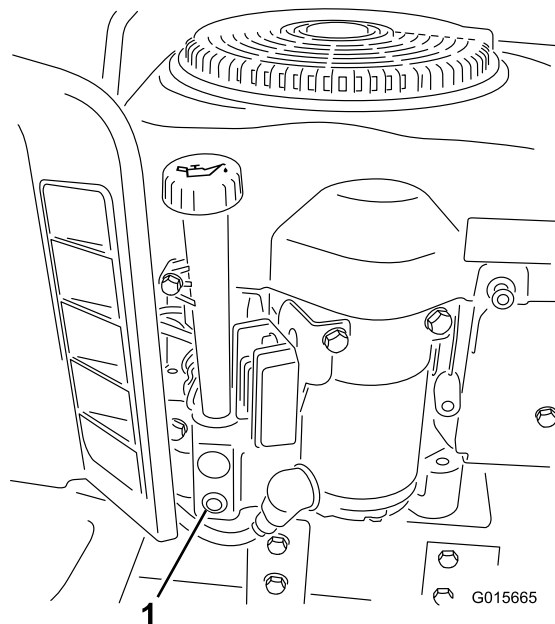

Figure 18
6. Place a drain pan below the oil drain plug and open the drain plug by turning the end nut counterclockwise (Figure 18).
9. Slowly pour approximately 80% of the specified amount of oil into the fill hole (Figure 18). Check the oil level; refer to step 4 of Checking the Oil Level.